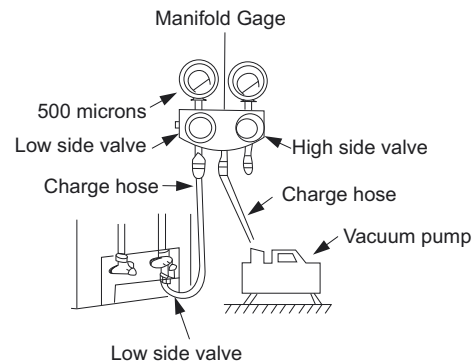

Fig. 15 – Manifold
- 3 Fully open the low side of manifold gage (see Fig. 15).